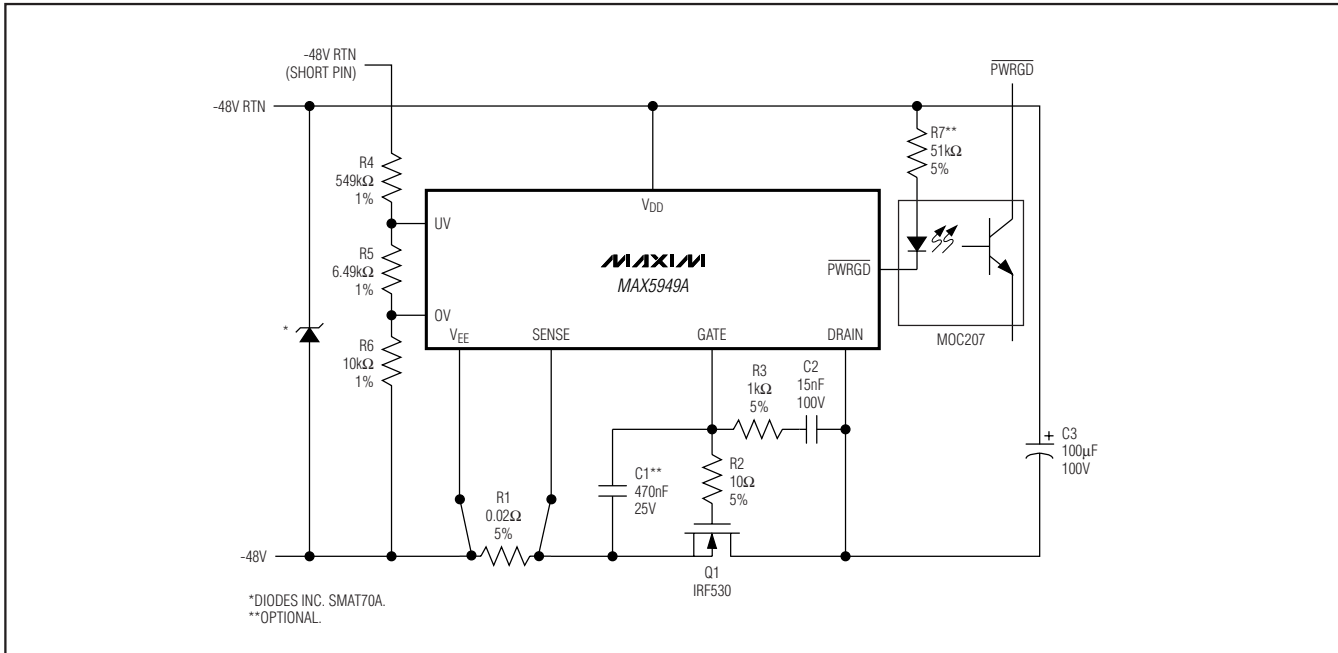

Figure 15. Using $\overline{\text{PWRGD}}$ to Drive an Optoisolator
The $\overline{\text{PWRGD}}$ signal can also be used to turn on an LED or optoisolator to indicate that the power is good (Figure 15) (see the *Component Selection Procedure* section).
- If an optocoupler is utilized as in Figure 15, determine the LED series resistor: